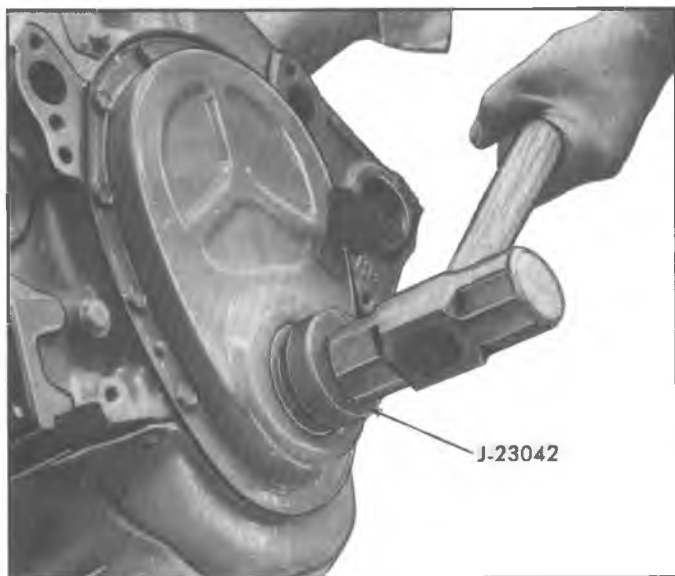

Fig. 23L—Installing Oil Seal (Cover Installed)
2. Install new seal so that open end of seal is toward the inside of cover and drive it into position with Tool J-23042 (fig. 23L).